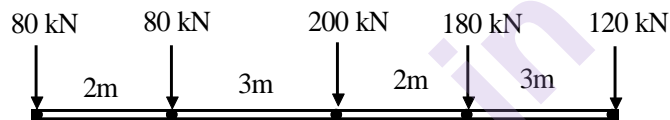

Fig. 5
5. A train of 5 wheel loads shown in fig. 5 crosses a simply supported beam of span 24m from left to right. Calculate the maximum '+ve' and '-ve' shear force values at the center of the span and the absolute maximum bending moment anywhere in the span. 16